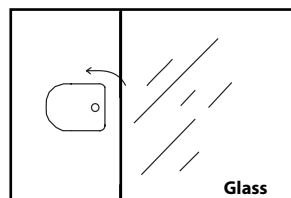

Fig. 1.
2. Turn the brackets so that the glass can be removed and cleaned at the sink (Fig. 1.)